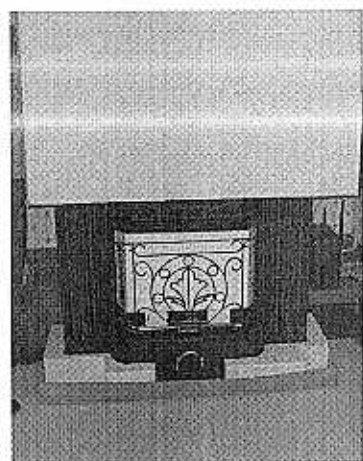

Figure 1
1. Remove packing tape and adhesive tape, take up the upper carton and move it away, then carefully carry out the fireplace from the lower carton base (see Figure 1).